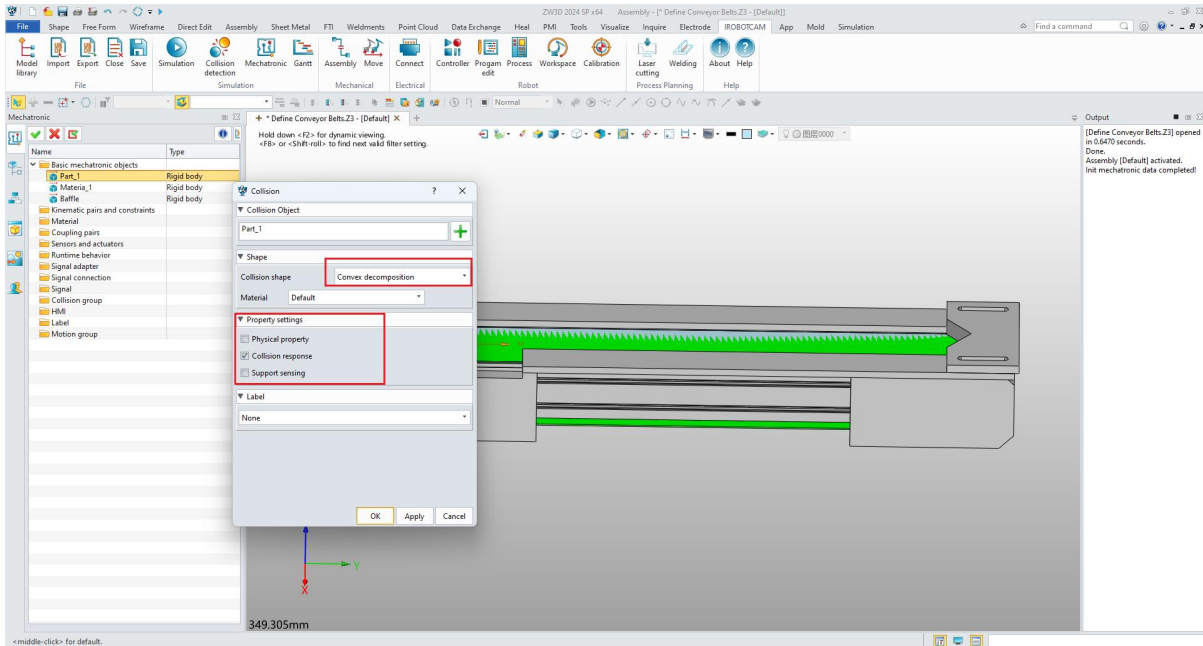

Figure 6-7: Add Long Board Collision
- Select "convex decomposition" for the collision shape, "collision response" for the property settings, and "default" for the material. (Figure 6-7)